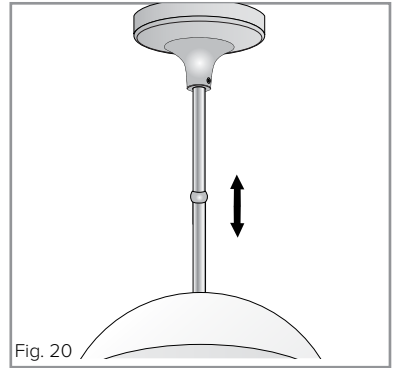

Fig. 20
11. With an assistant supporting the weight of the sphere, adjust the height by sliding the outer hanging tube up or down the inner one (Fig. 20).